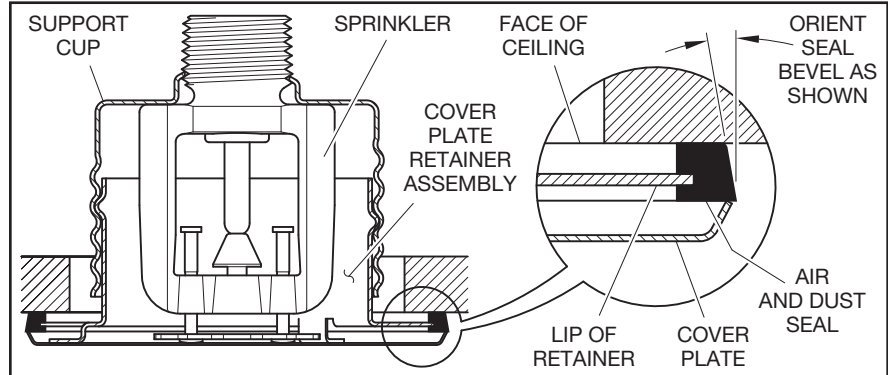

FIGURE 5
As an option, the Series RFI Standard Response (5-mm bulb) “Royal Flush II” Concealed Pendent Sprinklers can be fitted with a silicone Air and Dust Seal. (Refer to Figure 5.) The Air and Dust Seal is intended for sensitive areas where it is desirable to prevent air and dust from the area above the ceiling to pass through the cover plate.
**Step 7.** When installing an Air and Dust Seal, refer to Figure 5; otherwise, proceed to Step 8. To attach the Air and Dust Seal, verify the angle of the outside edge of the seal is oriented according to Figure 5. Start the edge of the Retainer in the grooved slot of the Air and Dust Seal and continue around the retainer until the entire Air and Dust Seal is engaged.
**Step 8.** Screw on the Cover Plate/Retainer Assembly until the Retainer (shown in Figure 2) or the Air and Dust Seal (shown in Figure 5) contacts the ceiling. Do not continue to screw on the Cover Plate/Retainer Assembly so that it lifts a ceiling panel out of its normal position. If you cannot engage the Cover Plate/Retainer Assembly with the Support Cup or you cannot engage the Cover Plate/Retainer Assembly sufficiently to contact the ceiling, you must reposition the Sprinkler Fitting.